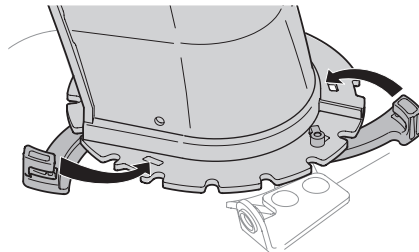

Figure 2-14
2. Close flange keepers to secure chute assembly to chute base. Flange keepers will click into place when properly secure. See Figure 2-14.